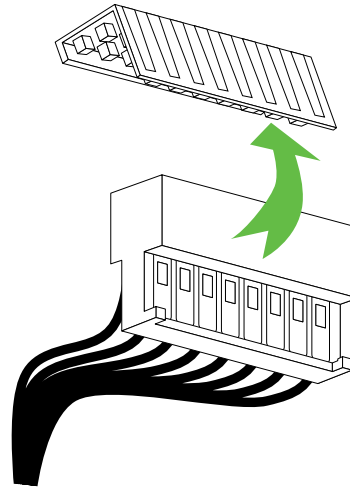

Figure 5-23. 8 Position Connector
7. Referring to Figure 5-23, remove the white plastic cover from the 8 position connector.